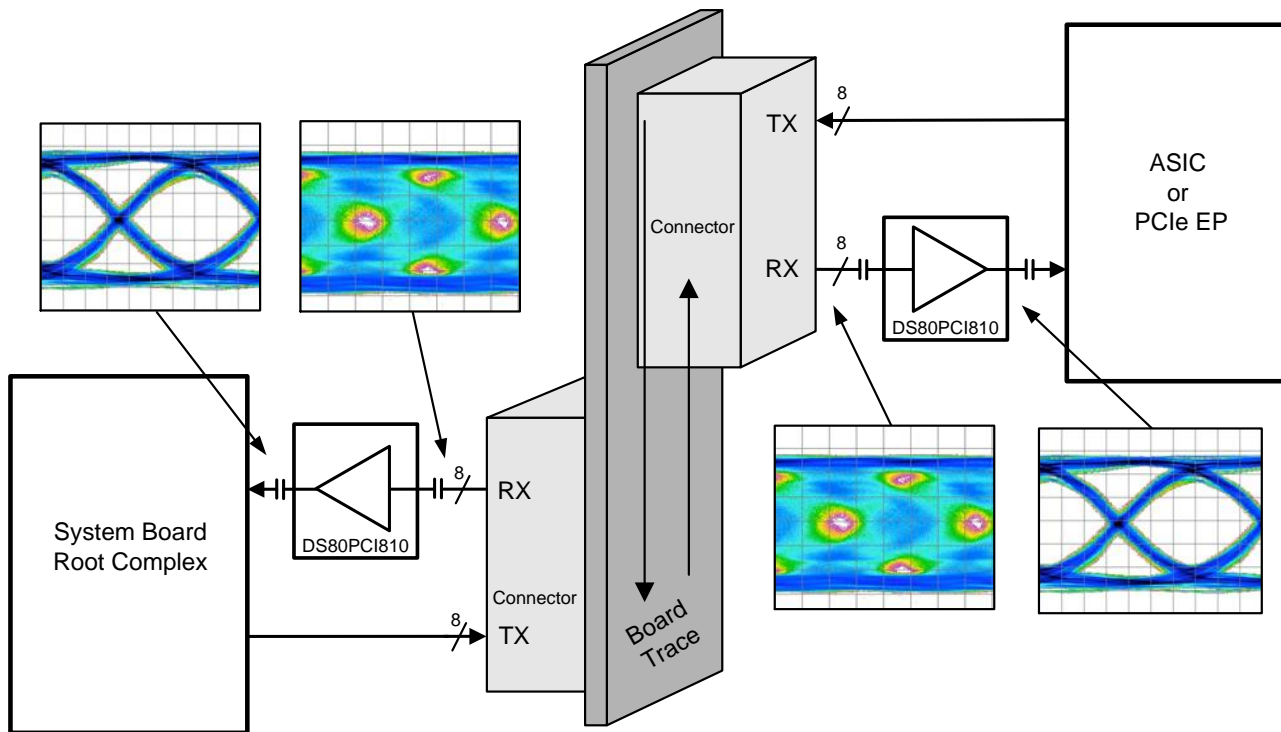

Figure 1. Typical DS80PCI810 Application
The testing in this report involves the DS80PCI810 PCIe Gen-3 low-power 8 Gbps 8-channel linear repeater. The linear nature of the DS80PCI810 equalization allows the DS80PCI810 to preserve the transmit signal precursor and postcursor used for link training between system root complex (RC) and endpoint (EP). An example of a typical application for the DS80PCI810 is shown in Figure 1.